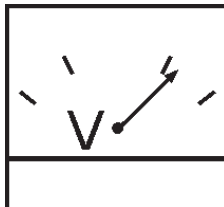

Figure 43. Voltmeter Meter
- The generator's **AC-voltmeter** (Figure 43) will display the generator's output in **VOLTS**.